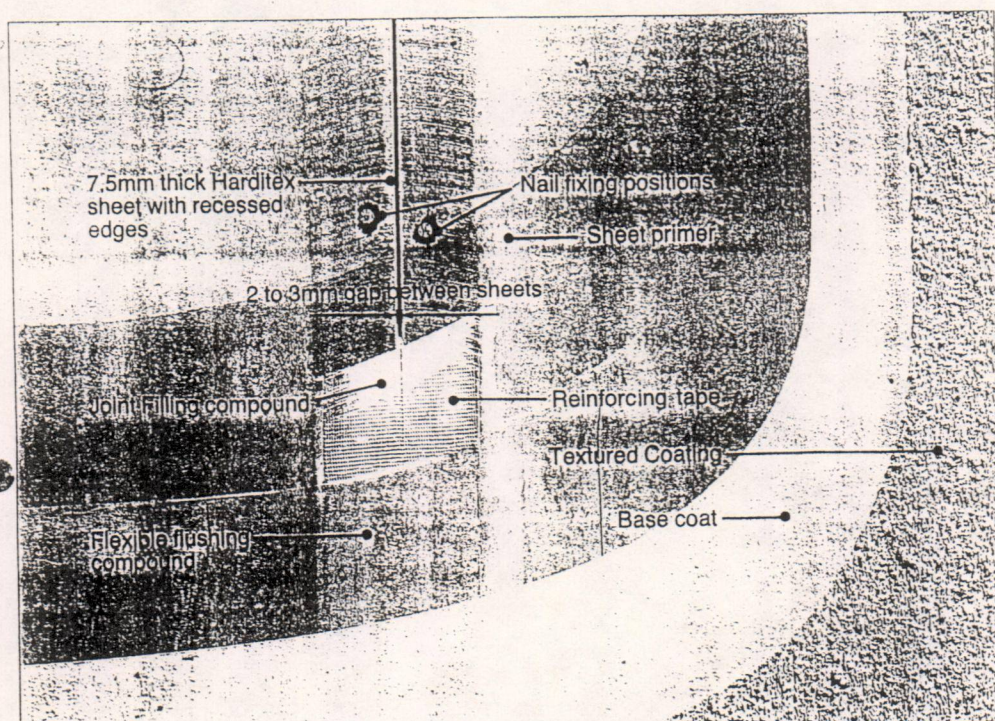

Fig. 1 The recessed edge sheet jointing system
The sheets are jointed by approved applicators with tape reinforced flexible compounds to give a long term durable jointing system. (Refer Fig. 1)
- The recessed edge of the Harditex sheet is designed to accommodate a tape-reinforced flexible jointing system, to achieve a monolithic flush finish with textured coatings. Refer also Fig. 1.